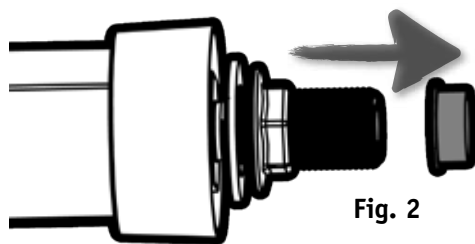

Fig. 2
- 3) Remove the two PROTECTIVE CAPS 2 from the THREAD TAILS 3 (Fig. 2)